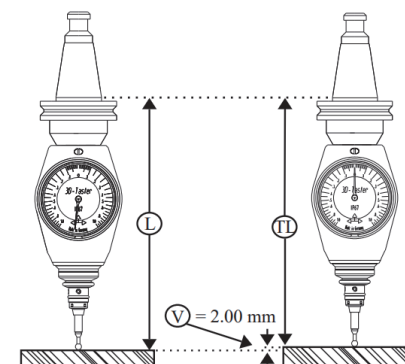

Figure 1
- Confirm the effective total length TL of the 3D table (Figure 1)